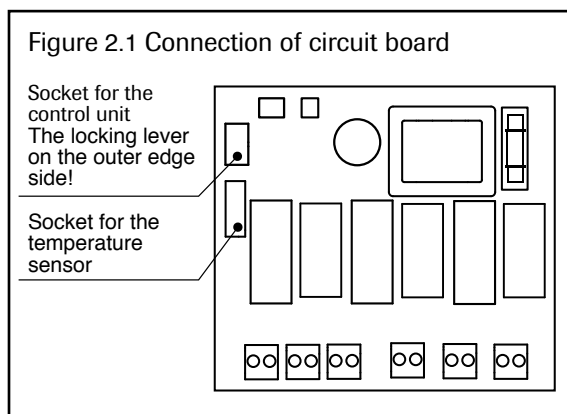

Figure 2.1 Connection of circuit board
- Connect the sensor to the circuit plate, as shown in Fig. 2.1.
- Connect the control unit to the circuit plate, as shown in Fig. 2.1.